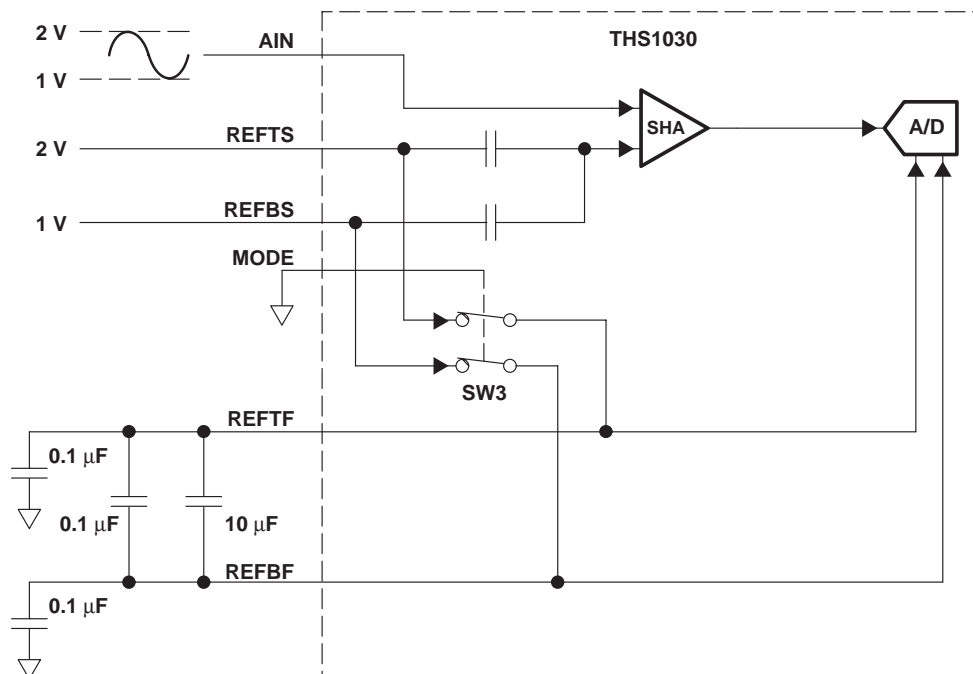
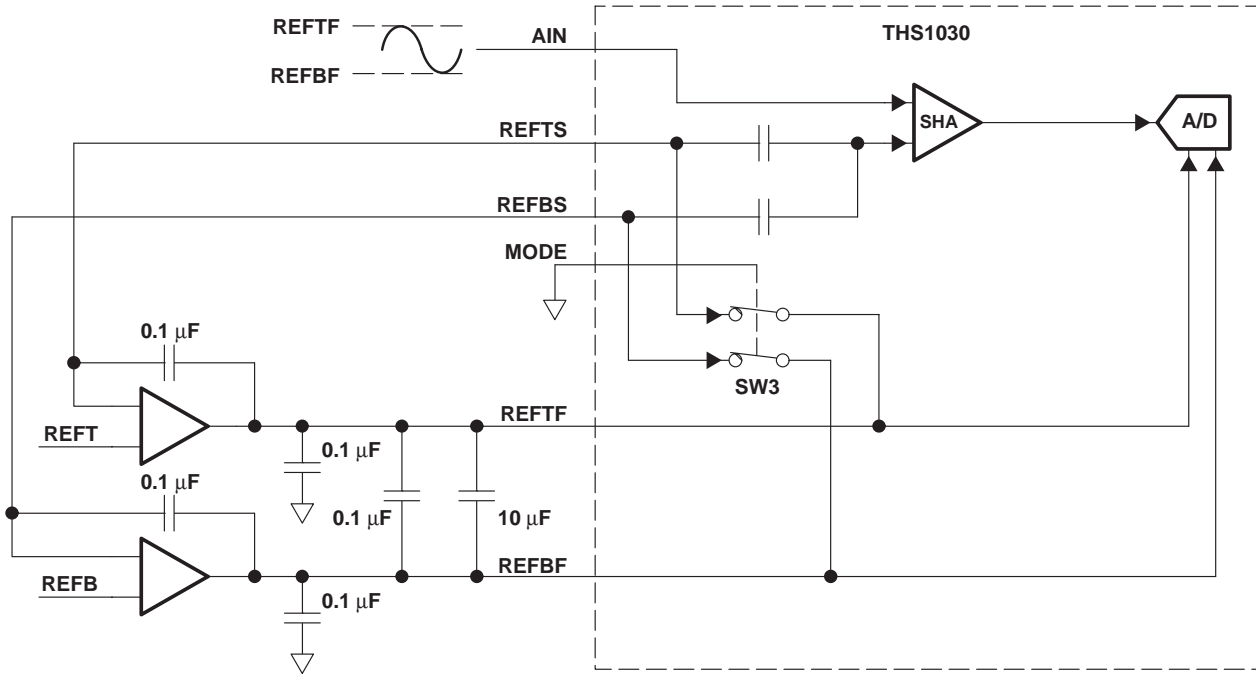

Figure 14. External ADC Reference Mode
Figure 15. Kelvin Connection With External ADC Reference Mode
- **External ADC Reference Mode:** A single-ended analog input is accepted at the AIN pin where the input signal is bounded by the voltages on the REFBS and REFBS pins. Figure 14 shows an example of applying external reference to REFBS and REFBS pins in which REFBS is connected to the low-impedance 2-V source and REFBS is connected to the low-impedance 2-V source. REFBS and REFBS may be driven to any voltage within the supply as long as the difference $(REFBS - REFBS)$ is between 1 V and 2 V as specified in Table 2. Figure 15 shows an example of an external reference using a Kelvin connection to eliminate line voltage drop errors.